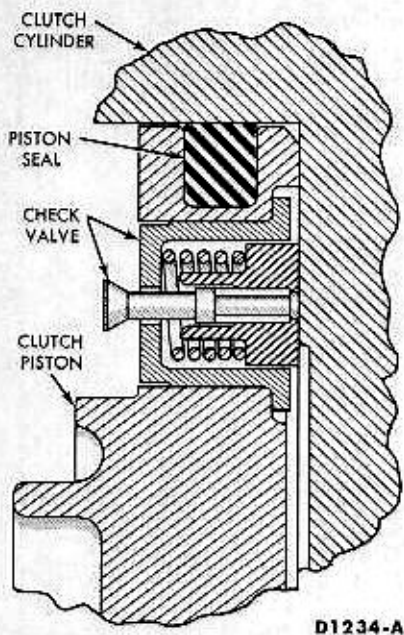

FIG. 15—Front Clutch Piston Check Valve
10. Inspect the clutch piston for scores and replace if necessary. Check the clutch piston check valve for free movement and proper seating (Fig. 15).
new piston inner seal ring in the clutch cylinder as shown in Fig. 15.
19. Install a new piston outer seal in the groove in the piston as shown in Fig. 15.